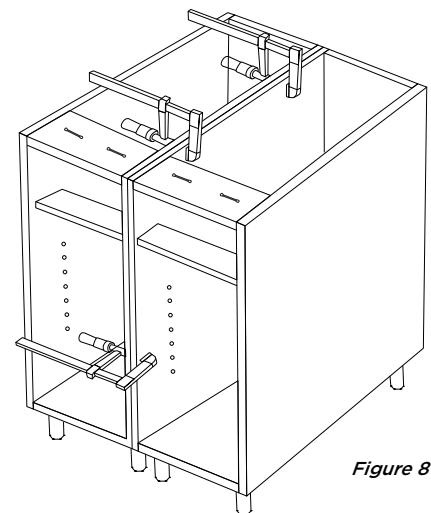

Figure 8
3. Secure the cabinets into position using clamps (Figure 8). Use as many clamps as necessary, placing them at the top and along the sides to maintain proper alignment and stability. Ensure end panels are clamped tightly together at all attachment points prior to fastening.